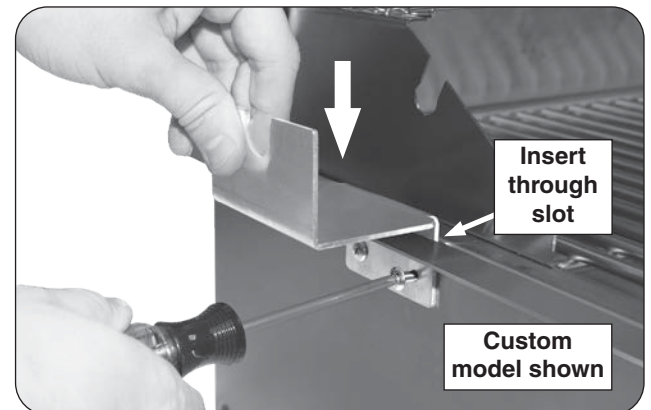

Fig. 15-3 Install bracket (if equipped)
3. Slide the bracket through the slot on the hanger and align the holes of the rotisserie bracket with the exposed screw holes on the grill. Using the screws from step 1, fasten the bracket to the grill (see Fig. 15-3).